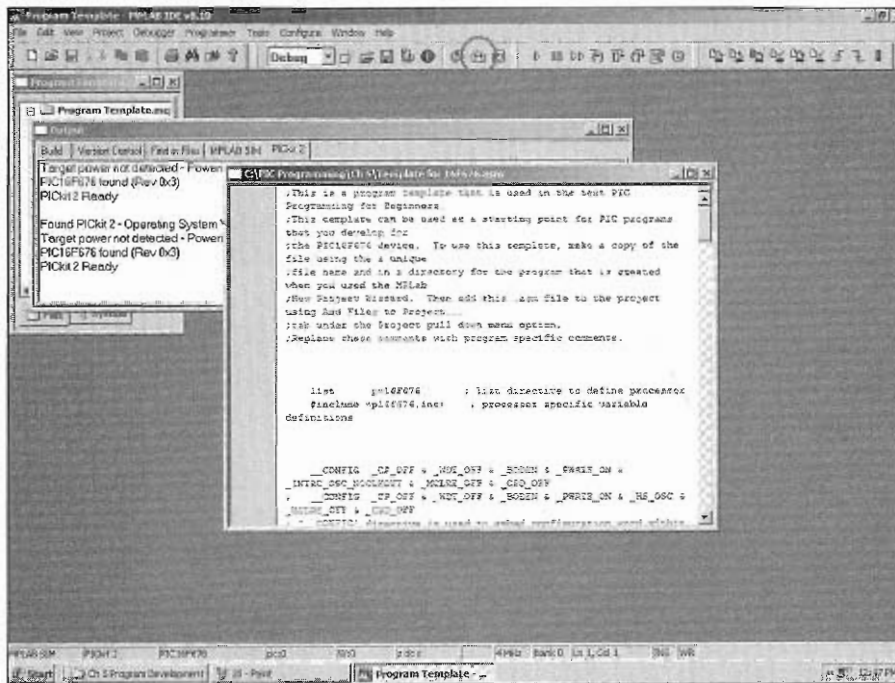

Figure 5-18 — Click on the BUILD icon (circled above).
Step 11. In the **MPLAB IDE** menu bar find and click on the **BUILD** icon (circled in **Figure 5-18**). This application will turn your assembly code into machine language and save the program as machine language in a .hex file. The build process is automatic and it can happen pretty fast. If you end up with